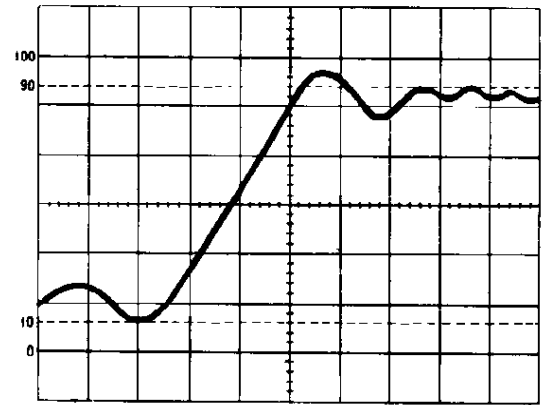

Fig. 12
4. Set the **HORIZ DISPLAY** to B to display the INT intensified portion as a magnified B sweep. (Fig. 12).